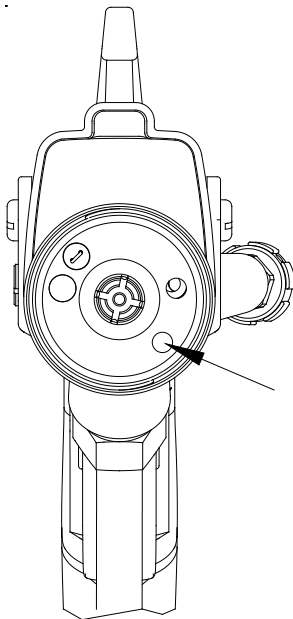

Figure 11: Air Cap Alignment Locating Pin Position
6. The AA90 Applicator incorporates a new feature, that being a locating air cap. (Refer to Figure 11 for a view showing the locating pin.) This feature gives the capability to spray with a fan pattern in either horizontal or vertical positions.